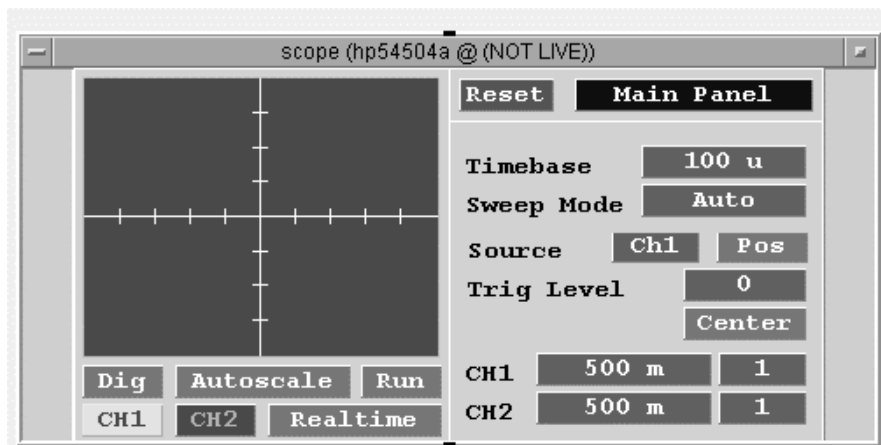

Figure 3.3. Selected hp54504a @ Not Live
16. Select Menu Bar =>I/O => Instrument Manager; highlight scope...NOT LIVE; under Create I/O object, click Panel Driver – the hp54504a @ (NOT LIVE) Object will appear on the screen. See Figure 3.3.